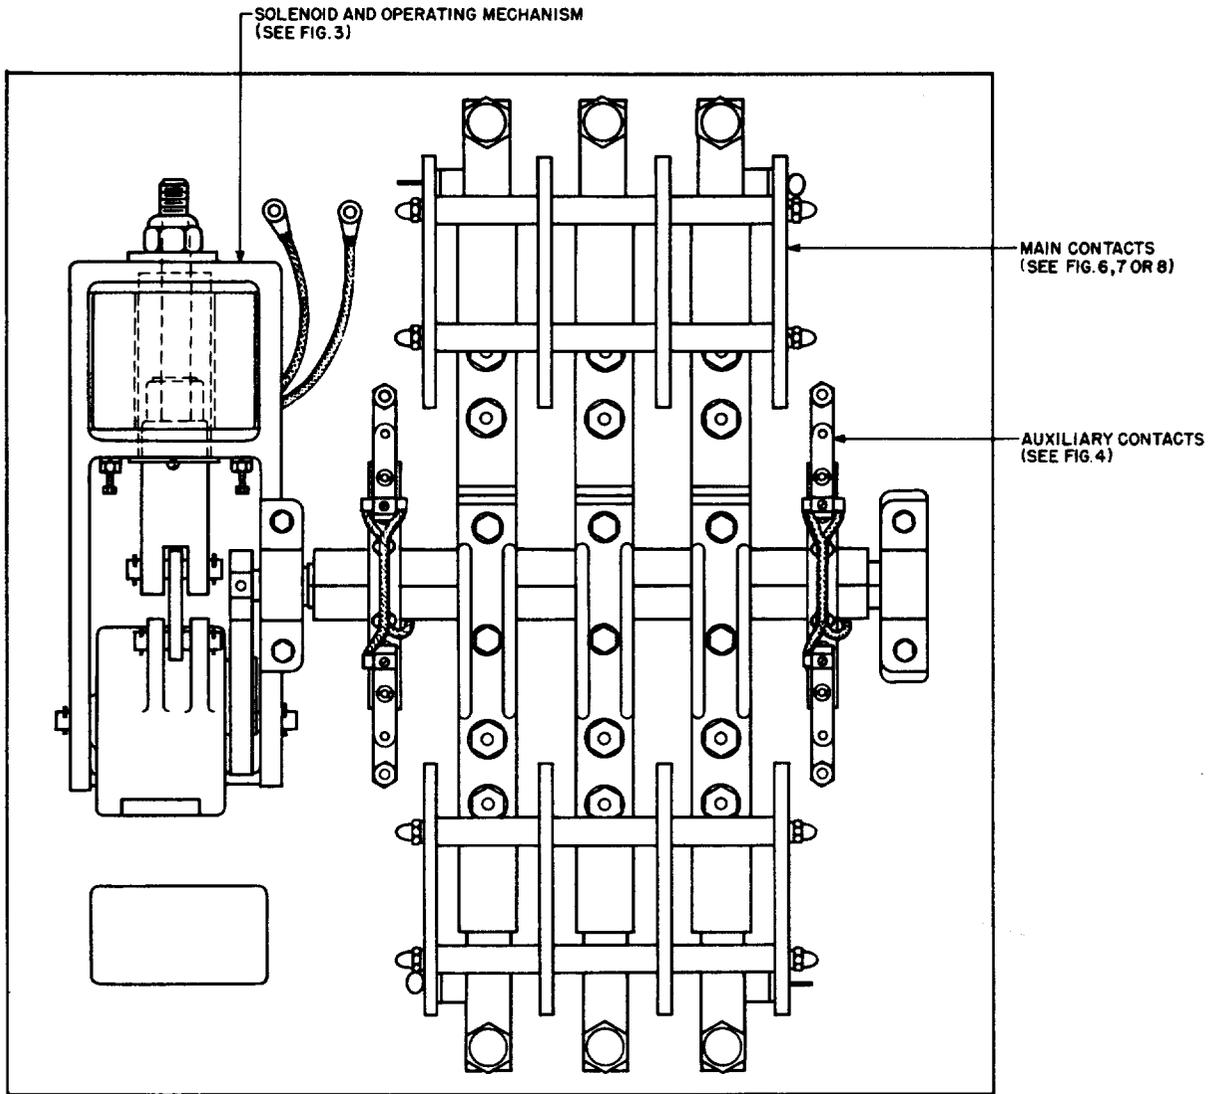

Fig. 1—Typical KS-15514, 30-, 75-, 100-, and 150-Ampere Contactors and KS-15934, 100- and 150-Ampere Contactors
2.05 *KS-15514 Contactors:* Fig. 1 and 2